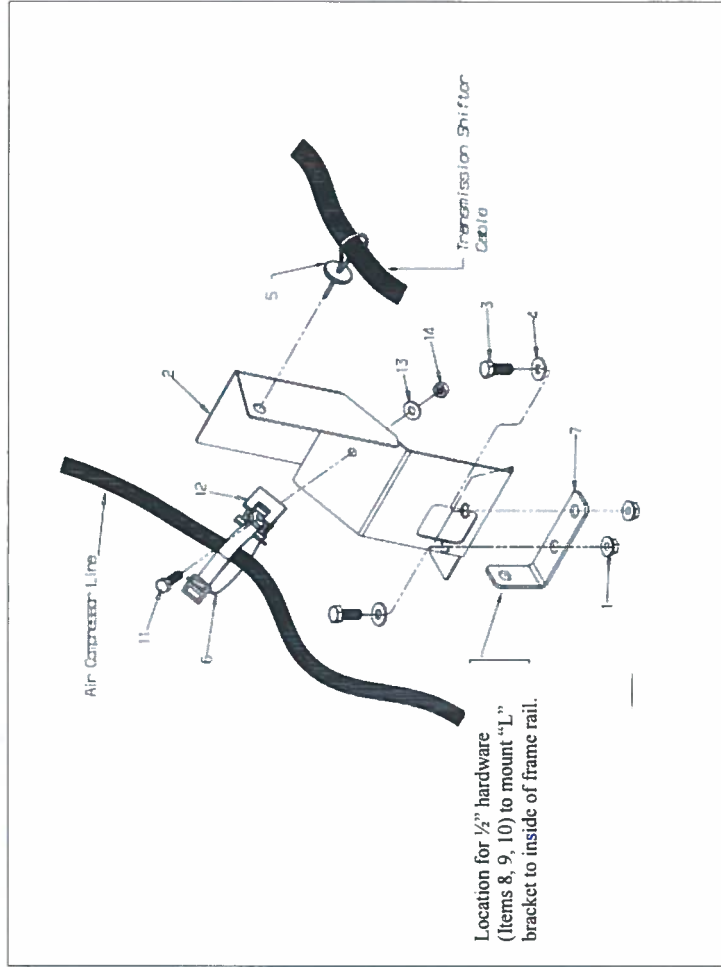

Figure 3
3. Install heat shield bracket (Item 2) to the top of the L bracket with fasteners (Items 1, 3, 4) as shown (Figure 3).
4. Install Saddle (Item 12) to the heat shield with fasteners (Items 11, 13, 14) as shown. Secure the air compressor steel braided line to the heat shield saddle using Zip Tie (Item 6) as shown (Figure 3).
5. Secure the transmission shifter cable to the side of the heat shield with button head zip tie (Item 5) as shown in (Figure 3).